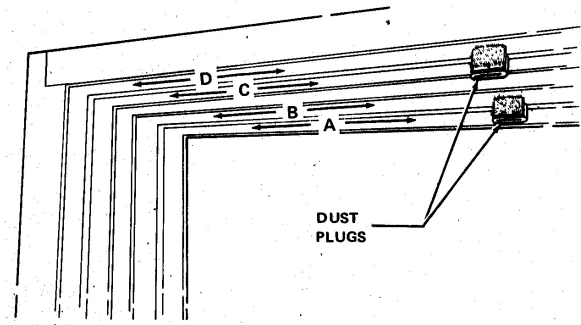

Figure 6
1. Grasp sash (5) firmly at edge rails, and insert top of the sash into track A of the upper frame, behind (to the outside) of the dust plug (Figure 6).